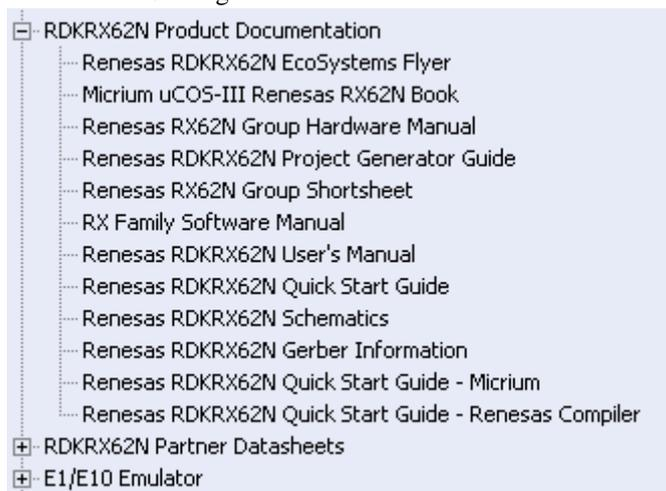

Figure 1 After installing the YRDK62N CD you will get documentation covering the board, the MCU and for third party peripherals used on the board.
- Documentation for the board. This includes schematics, HW manual for MCU, User Manual, and third party device information. See Figure 1.